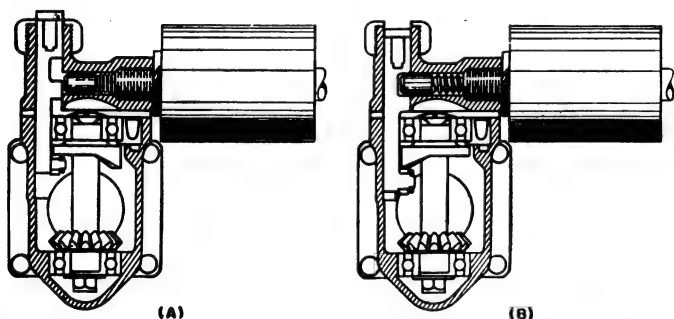

Figure 35.—Solenoid secured to impulse generator housing.
In figure 35 (A), the solenoid is in the retracted, or operating, position. Notice that there must be a small clearance between the end of the plunger and the side of the cam follower to permit the cam follower to operate freely when the plunger is disengaged. In (B), when the plunger is engaged, as much of the $\frac{3}{16}$ " throw as possible